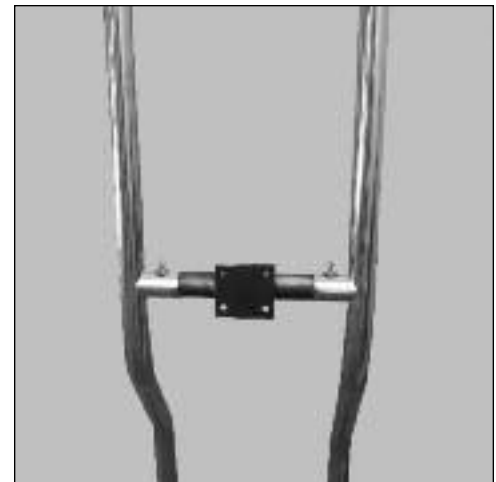

Fig. 19
STEP TWO: Attach the cross brace to the support posts (See Fig. 18) by inserting the cross brace inside the 2 support post stubs (See Fig. 19). The square 4 hole plate on the cross brace faces the pool. Insert the two (2) 3/8" bolts through the holes adding a flat washer top and bottom of cross piece and then lock washer and nut. Hand tighten only.